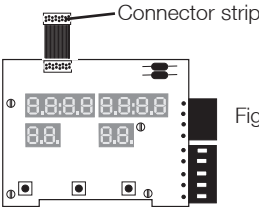

Fig. 2
- Connect the connector strip of the display (Fig. 2) to the port (note the guide pin).